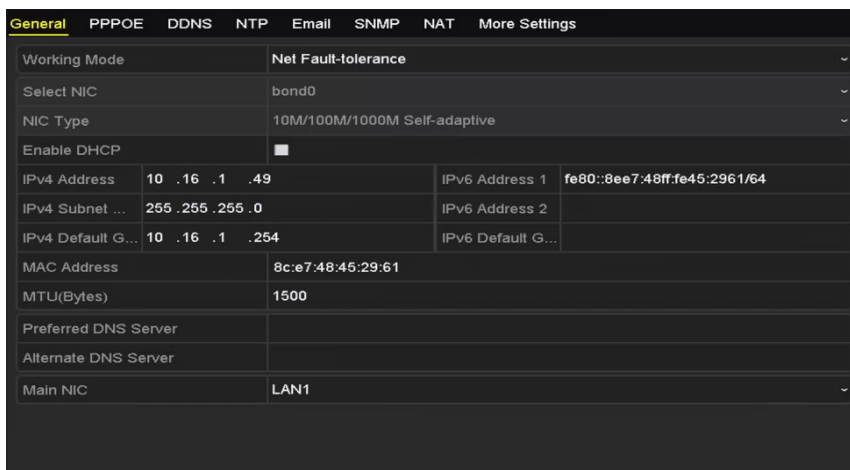

Figure 11. 21 Network Settings Interface
2. Set the IPv4 Address, IPv4 Subnet Mask, IPv4 Gateway and the Preferred DNS Server in the Network Settings menu, as shown in Figure 11. 21.